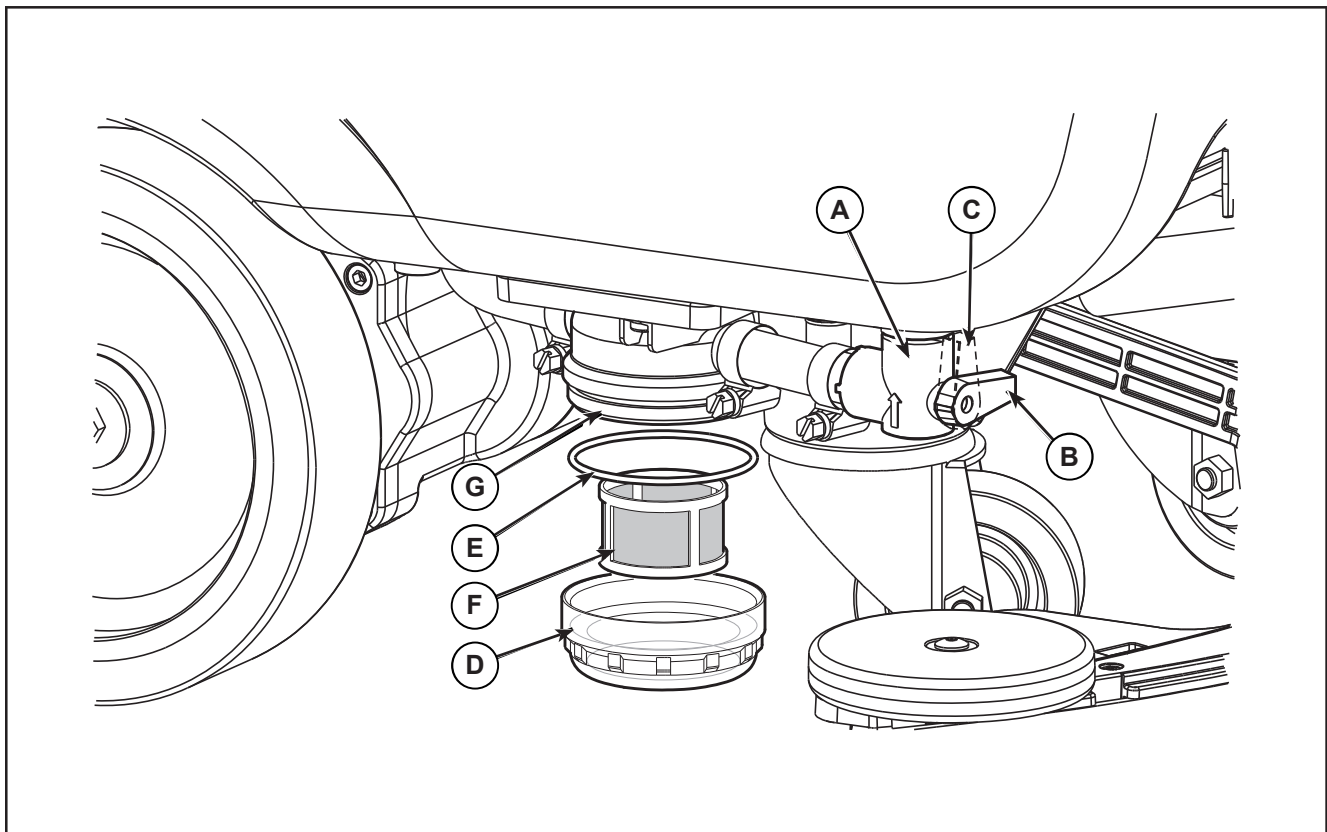

Figure 8:
4. Close the detergent solution valve (A) (Figure 8). The valve (A) is closed when it is in position (B) and it is open when it is in position (C).
5. Remove the transparent cover (D) and the gasket (E), then remove the filter strainer (F). Wash and rinse them, then refit them carefully onto the filter support (G).
6. Open the valve (A).